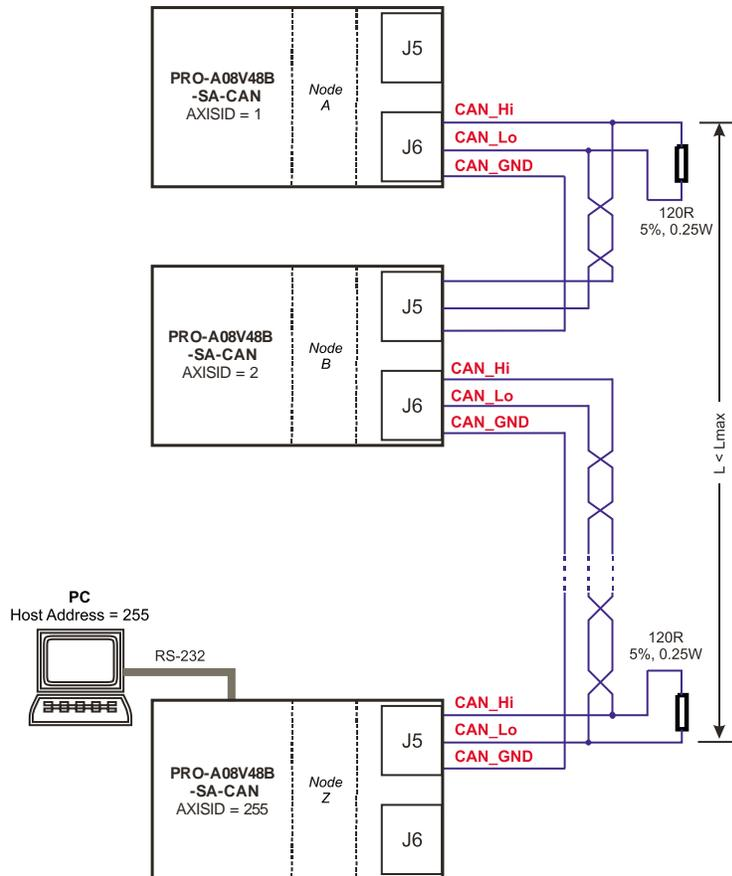

Figure 3.29. Multiple-Axis CAN network
- The axis IDs in **Figure 3.29**, are valid for MPLCAN mode. For CANopen mode, the highest axis ID a drive can have is 127.